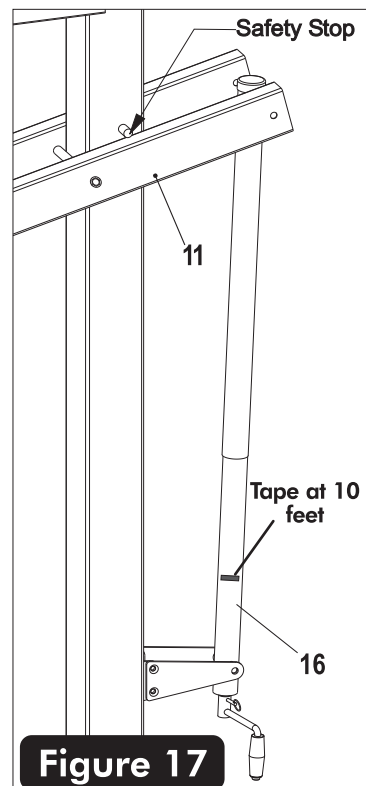

Figure 17
31. Lower backboard all the way down. Do not force actuator once backboard is in it's lowest position. See **Figure 17**.